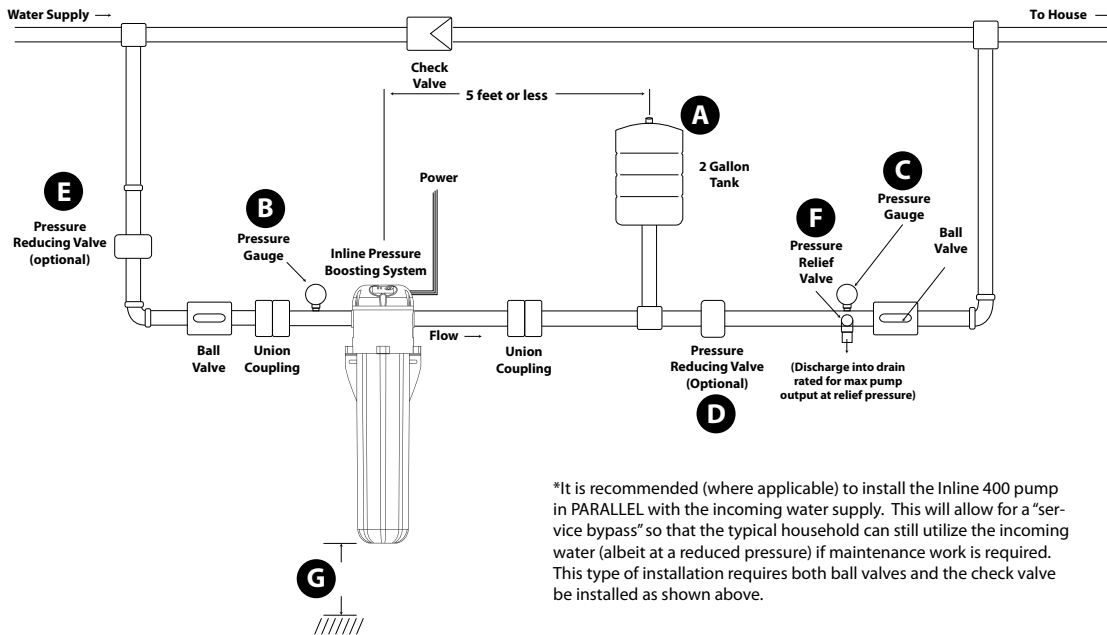

Figure 1
Inline 400 Installation Orientation: (refer to Figure 1 if necessary)
4. Install inlet and outlet plumbing and pressure tank as shown in Figure 1. The inlet and outlet of the unit is marked with "INLET" and "OUTLET" respectively. Unions should be installed on the suction and discharge ends of the pump (use of PTFE thread sealant tape is recommended over paste, do not overtighten). Internal check valves are provided on both the suction and the discharge ends of the pump. These valves can help in preventing backflow. If the optional bypass loop is used, a check valve should also be installed in the bypass (See Fig. 1). Be sure to check all local plumbing codes to ensure that all requirements pertaining to backflow prevention are met.